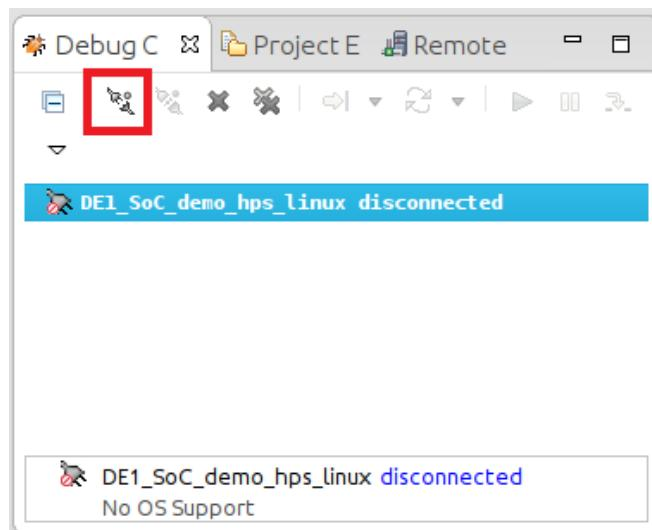

Figure 13-28. Debug Control View
88. In the "Debug Control" view, click on the "DE1\_SoC\_demo\_hps\_linux" entry, then click on the "Connect to Target" button, as shown on Figure 13-28. The debugger will start an SSH connection to the linux distribution running on the DE1-SoC and will automatically transfer our binary file and wait at our application's "main()" function. If you are prompted to log in, then log in with the **ROOT** user and password.